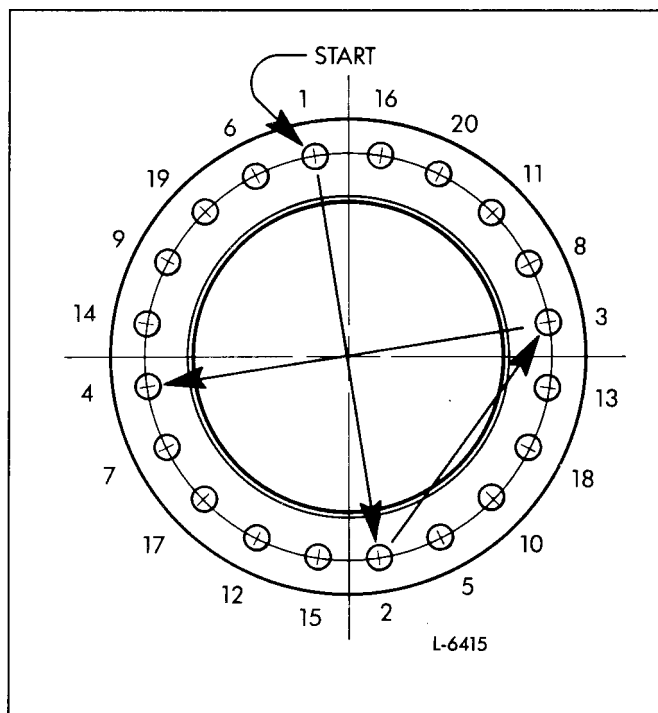

Fig. 8 - Bolt Tightening Sequence
lockwashers in the threaded holes at the top of the flange. Tighten the bolts to 30 lb—ft (41 N*m) torque using the sequence outlined in Fig. 8.
7. Align and bolt the water outlet housing (cover) to the floating end of the oil cooler assembly with seventeen (17) bolts, lockwashers and nuts, and three (3) bolts with lockwashers in the threaded holes at the top of the flange. This cover is not to be mounted flush to the shell flange. A gap must be maintained for the weep ring. Tighten the bolts to 35 lb—ft (47 N*m) torque using the sequence outlined in Fig. 8.